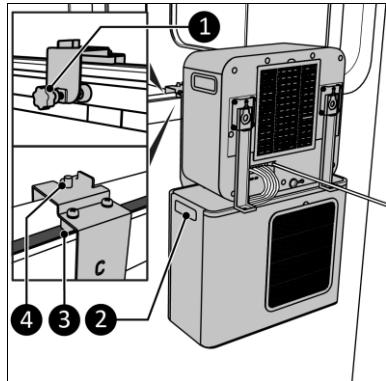

Figure 9
9. Place the complete unit in the window using the side handles of the outdoor unit (Figure 9, pos. 2). Make sure the gray blocks (Figure 9, pos. 3) are in the window seal.
10. Tighten the bolts (Figure 9, pos. 1) hand tight on the caravan.
11. Make sure you have the screw caps (Figure 2, pos. 8) within reach for the threads on the bracket (Figure 9, pos. 4).